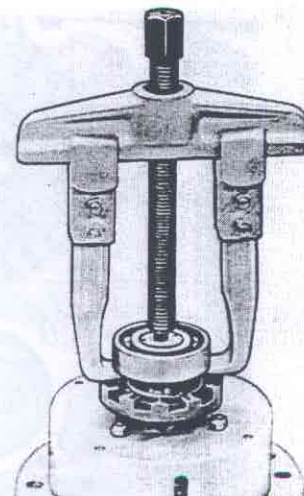

Fig. 48-15. Removing bearing
2. Pull the support bearing off the shaft with a standard puller, see Fig. 48-15. Remove the spring and flange.